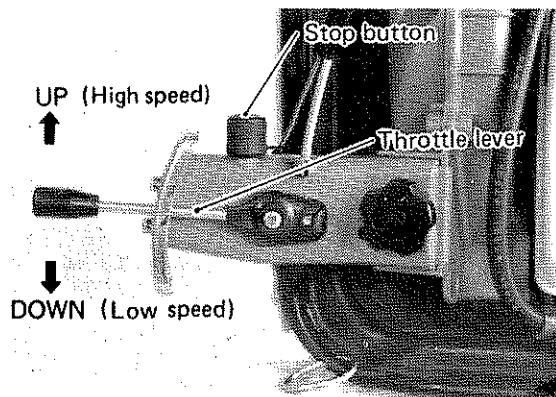

Figure 6
3. Push up throttle lever. (Fig. 6)
2. Stop the engine by pushing stop button. (Fig. 6)